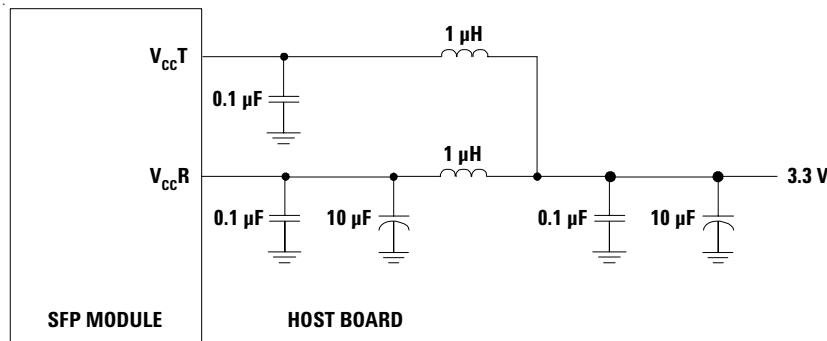

Figure 1 - MSA required power supply filter
The HFCT-5701L/LP can withstand an injection of PSN on the V_{CC} lines of 100 mV ac without a degradation in eye mask margin to 10% on the transmitter and a 1 dB sensitivity penalty on the receiver. This occurs when the product is used in conjunction with the MSA recommended power supply filter shown in Figure 1.
- MSA filter is required on host board 10 Hz to 1 MHz. See Figure 1 (Page 2)